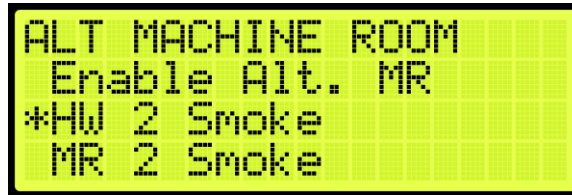

Figure 606: ALT MACHINE ROOM Menu – HW 2 Smoke
3. From the ALT MACHINE ROOM menu, scroll and select HW 2 Smoke (See Figure 606).